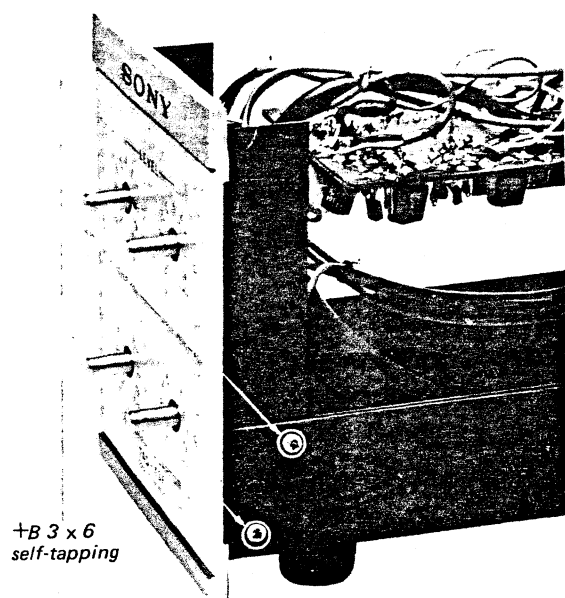
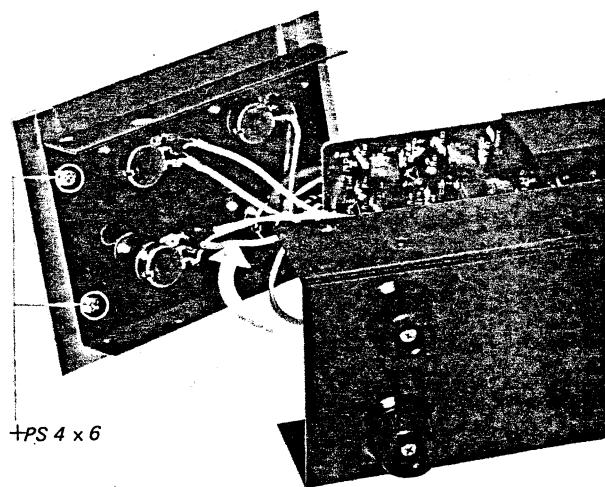

Fig. 2-3 Front subchassis removal
Fig. 2-4 Front panel removal
4. Remove the two self-tapping screws (+B 3 X 6) at each side of the chassis as shown in Fig. 2-3. Now the front subchassis can be tilted forward and down with front panel as shown in Fig. 2-4.
5. Remove the two screws (+PS 4 X 6) securing the front subchassis to the front panel as shown in Fig. 2-4. This frees the front panel.